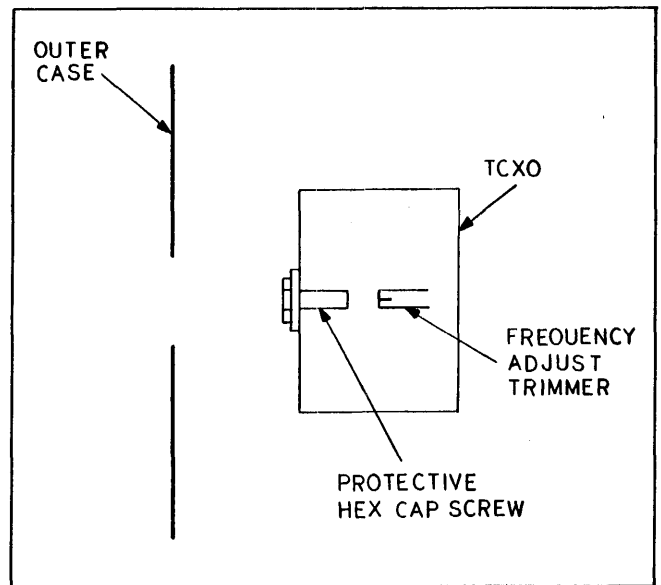

FIGURE 4-26. ACCESS TO TCXO
- d. Remove protective cap screw on TCXO cover (Figure 4-26)